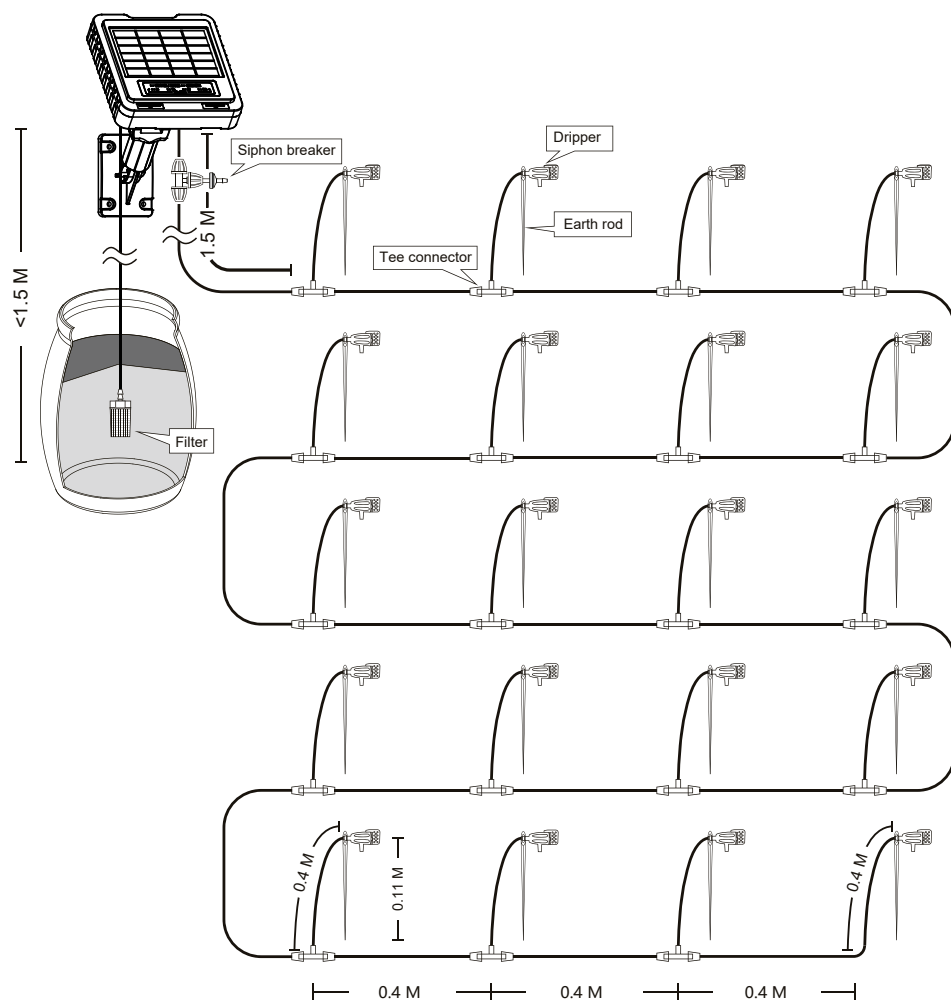
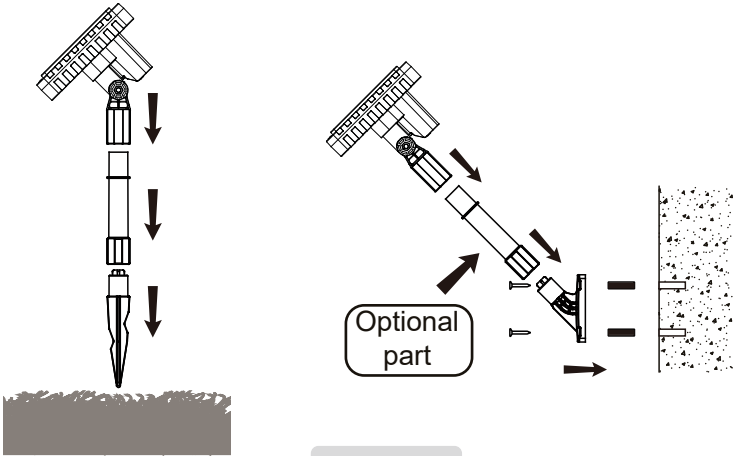

Figure 1: Recommended system installation schematic
Figure 2
- 2) Find a sunny place that is shadow-free all day long for the placement of the solar irrigator unit. It can be installed on a wall or fence by the enclosed bracket or even on the ground by the enclosed ground spike as shown in **Figure 2**. The water inlet on the back of the irrigator unit should be significantly higher than the maximum possible water level of the water reservoir but no more than 1.5 meters higher than the bottom of the water reservoir (referring to **Figure 1**: Recommended system installation schematic). The location should be able to avoid the irrigator unit to get dipped into water when raining.
- 8) Construct the water supply line with the water hose and tee connectors as per the layout of the plants as shown in **Figure 1**. Make sure the hose is fitted onto the water outlet firmly to sustain water pressure. Regularly, each plant needs one tee connector for water access, if possible, place the tee connectors near the plants for easier water access. The last tee connector can serve two plants.
- 8) Install drippers near the plants to be watered with the help of earth rods as shown in **Figure 1**. The flow rate of the dripper can be adjusted by the knob on its top to cater the need of the plant it irrigates.